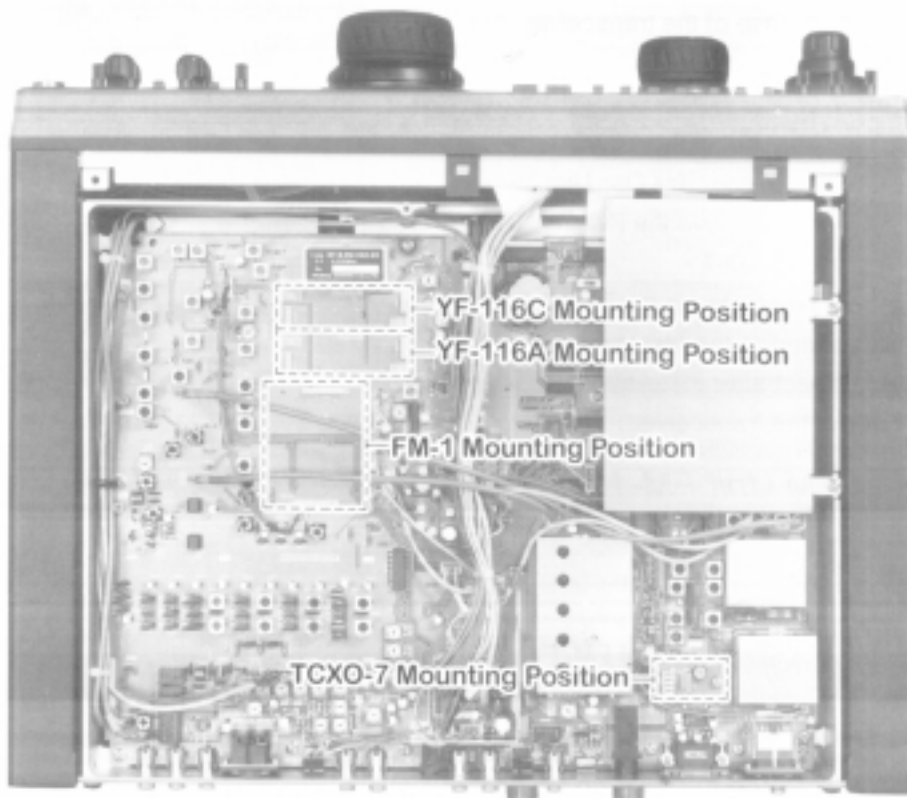

Figure 2
- ① Remove the bottom case of the transceiver (see previous page).
- ② Refer to Figure 2 on the previous page, and locate the mounting positions for the CW (**YF-116C**) and/or AM (**YF-116A**) filters on the MAIN Unit.
- ② Refer to Figure 2 on the previous page, and locate the mounting position for the **TCXO-7**, which currently is occupied by the “REF Osc UNIT.”
- ② Refer to Figure 2 on the previous page, and locate the mounting positions for the **FM-1** on the MAIN Unit.